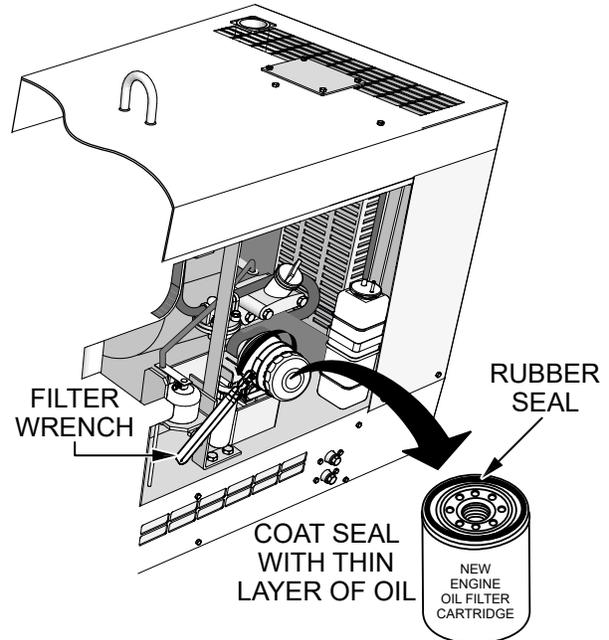

**Figure 50. Draining Engine Oil**
1. Remove the **oil drain bolt** and **O-ring** (Figure 50) and allow the oil to drain into a suitable container.